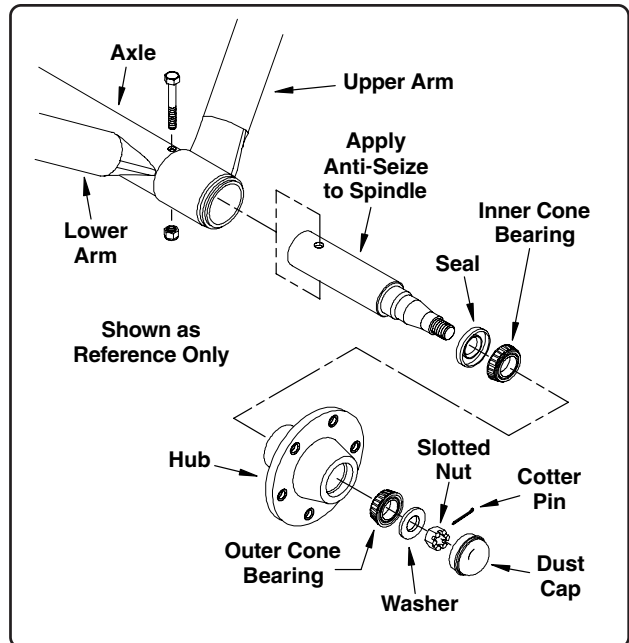

Fig. 29
2. Apply an anti-seize compound to the spindle and insert the spindle into the axle (See Fig. 29). Align the hole in the spindle with the hole in the axle and secure using one 1/2" x 4" bolt and nylon locknut (40' models use a 1/2" x 3 1/2" bolt).